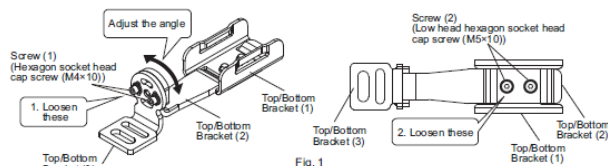

Fig. 1
1. Securely tighten the screws to fix the Side-Mount Bracket to the mounting position of the wall surface. When using more than one Side-Mount Brackets, align them in the same line using the sides of the brackets that do not face the wall, before attaching the brackets to the sensor. (Fig. 1)
1. Loosen the Screw (1) (hexagon socket head cap screw (M4×10)) of Top/Bottom Bracket (3) and change the angle of the Top/Bottom Bracket (3) according to its mounting direction. Then loosen the Screw (2) (low head hexagon socket head cap screw (M5×10)) of Top/Bottom Bracket (2). (Fig. 1)